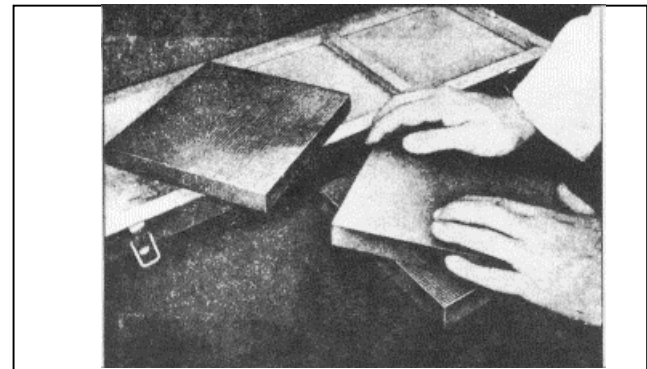

Fig. 2. Refinishing Lapping Blocks
- (13) Secure the cover to the governor housing with three regular screws, one special screw and lockwashers.
- (14) Hook the torsion retraction spring to the special cover screw and the stop lever (Fig. 2).
- (15) Perform an engine tune-up as outlined in SM6-5-68.0
To refinish the blocks, spread some 600 grit lapping powder of good quality on one of the blocks. Place another block on top of this one and work the blocks together as shown in Fig. 2. Alternate the blocks from time to time. For example, assuming the blocks are numbered 1, 2 and 3, work 1 and 2 together, then 1 and 3, and finish by working 2 and 3 together. Continue this procedure until all of the blocks are perfectly flat and free of imperfections.